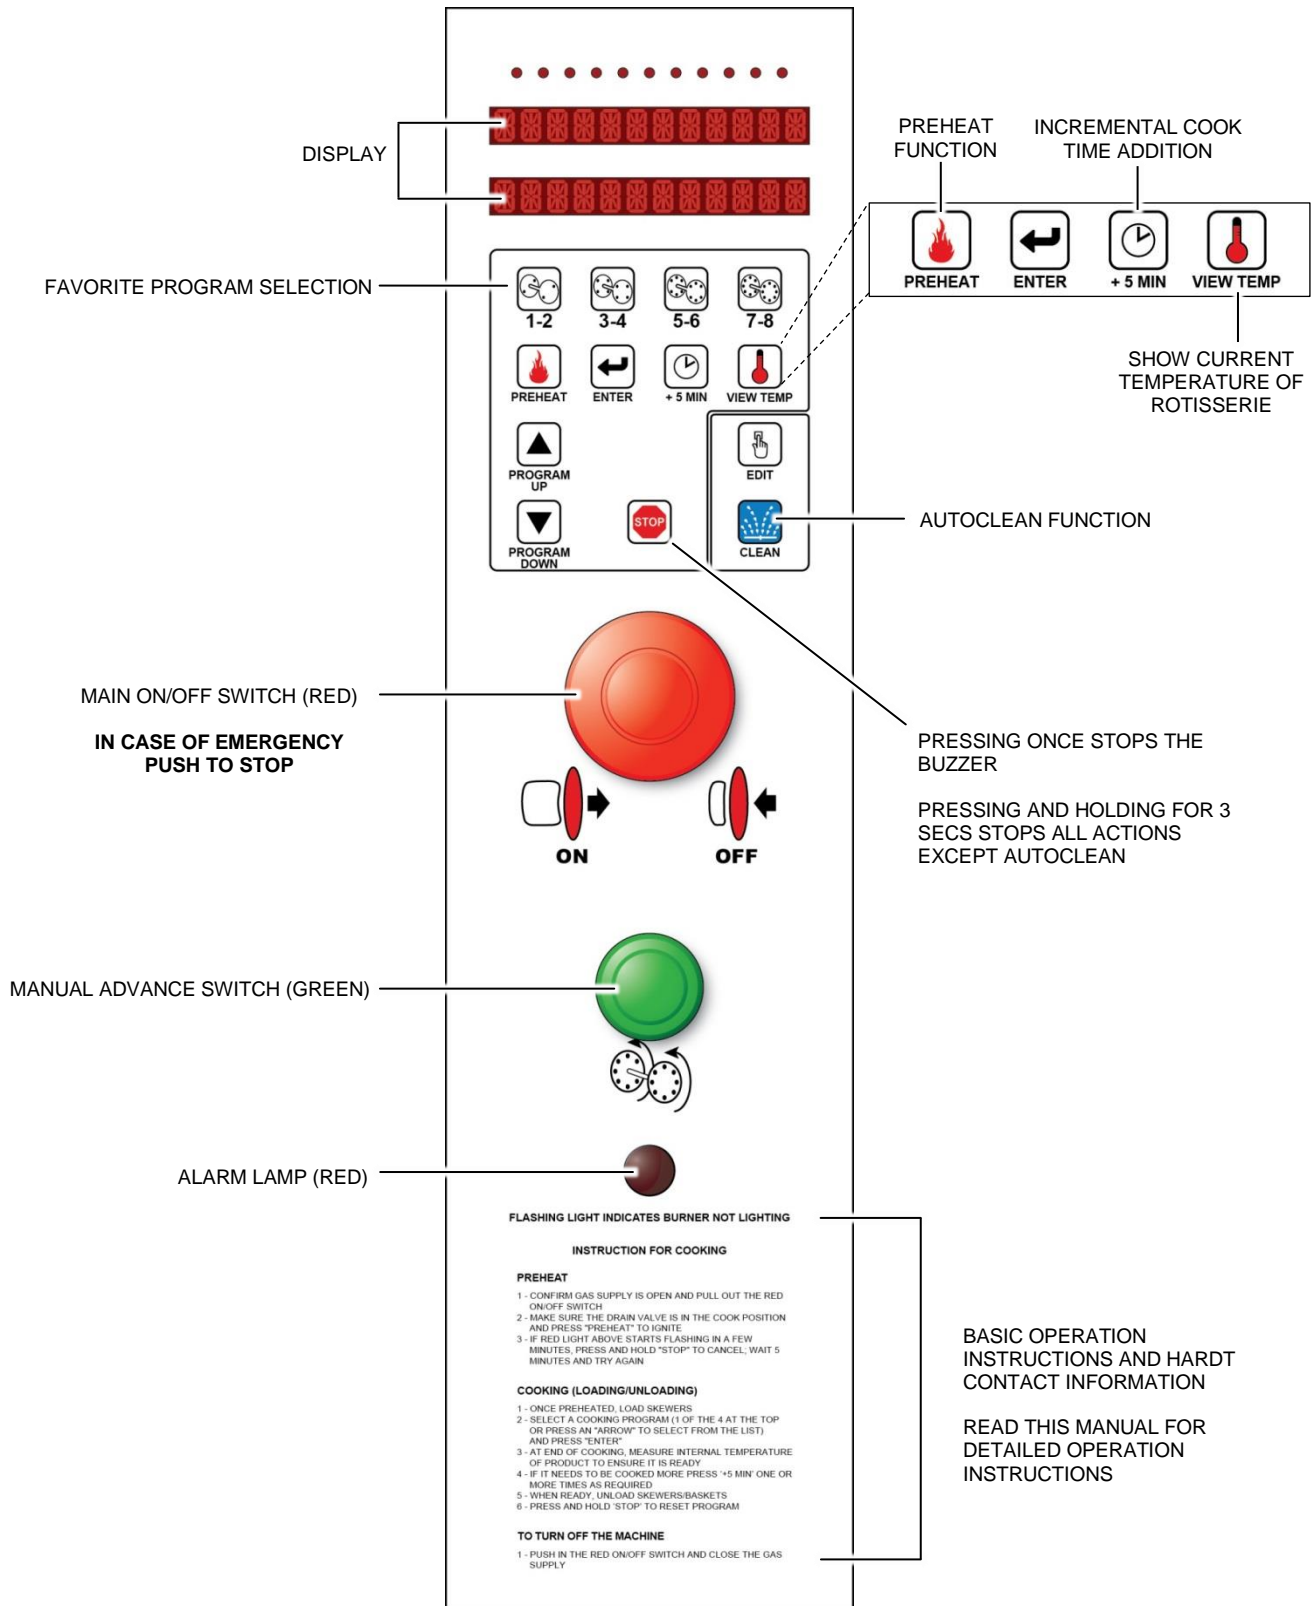

Figure 3-4
1. With power connected to the rotisserie, turn on the Inferno 4500 by pulling out the main ON/OFF red switch shown in Figure 3-4.
Use the green Manual Advance Switch (as indicated in Figure 3-4) to position sockets as required.
- In case of a Safety Lock Out (gas burner does not light), the red alarm lamp (shown in Figure 3-4) will flash continuously.